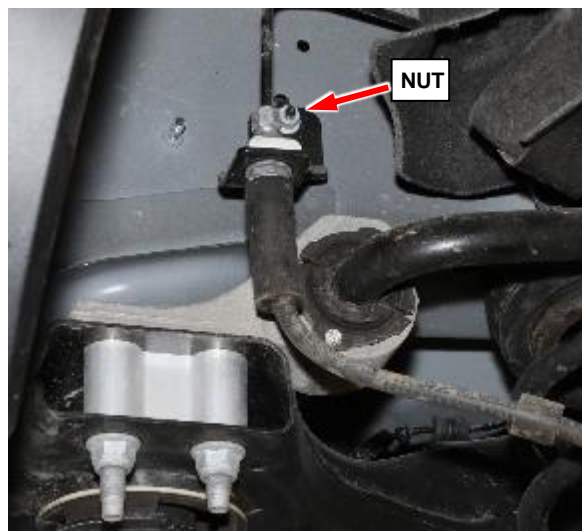

Figure 7 – Brake Pipe Bracket
8. Remove the nut holding the brake pipe bracket to the body (Figure 7).
25. Install the nut holding the brake pipe bracket to the body tighten to 7 N·m (62 in. lbs.) (Figure 7).